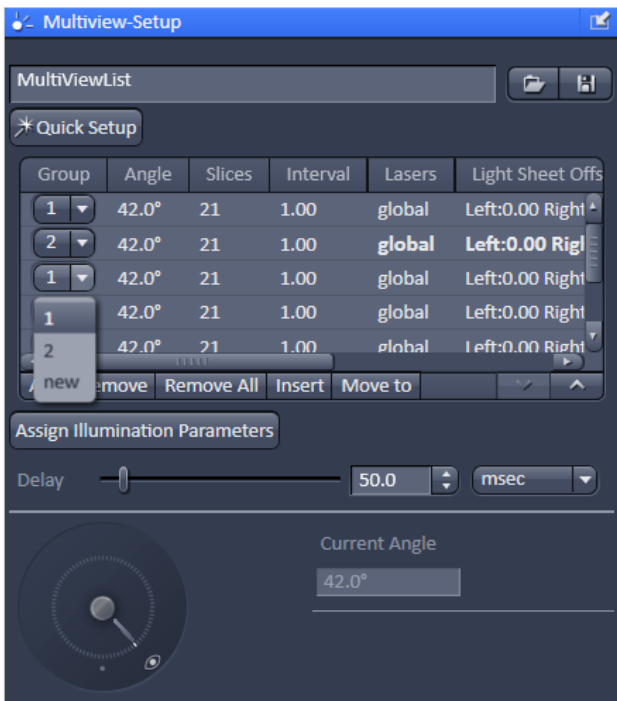

Figure 8 Multiview-Setup Tool with views and groups
- 1.4 If changes are needed use the dropdown menu in the **Group** column to start a new group (Fig.8).